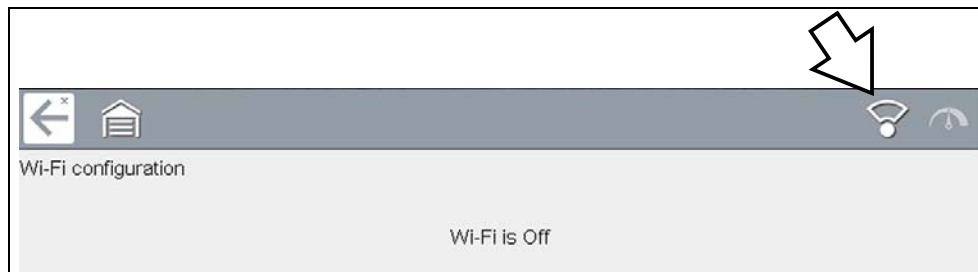

Figure 13-2 Wi-Fi Icon (shown off)
- Select the **Wi-Fi icon** to turn Wi-Fi on (Figure 13-2).